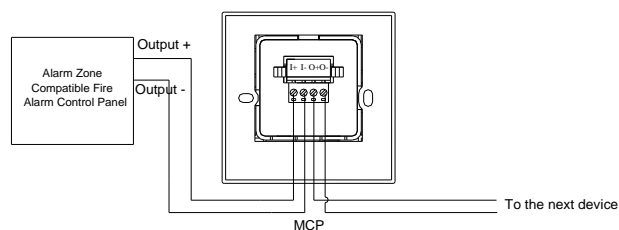

Fig. 3
- ✧ Application of the MCP is shown in Fig. 3.